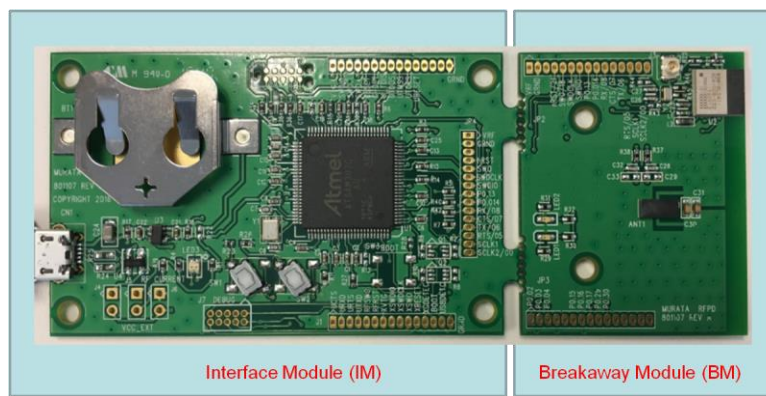

Figure 1 MBN52832 Development Kit Evaluation Board
The MBN52832Development Kit (MBN52832DK) supports the evaluation and development of smart IoT wireless networking products using BLE and NFC. It consists of an evaluation board (EVB), a quick start guide and this user guide. The EVB consists of two parts, the Interface Module (IM) and the Breakaway Module (BM), as shown in Figure 1. IM provides a dual USB-SWD and USB-UART interface to support firmware download and application software debugging and development; BM contains a MBN52832 module preconfigured with an onboard 2.4GHz antenna, LEDs, 32 KHz sleep clock and a NFC antenna. There is also an u.FL connector for RF evaluation. The BM can be separated from the IM and used as a standalone carrier board of MBN52832for product prototyping.